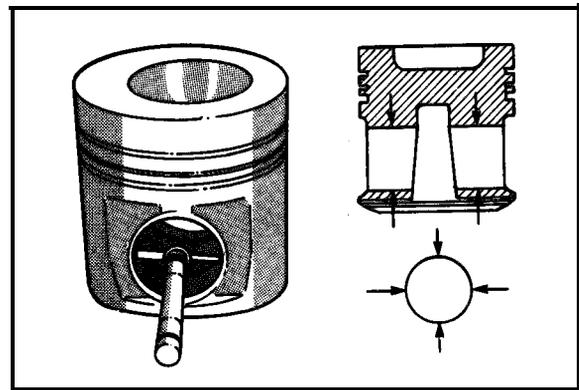

Figure 6-12
8. Using an inside micrometer, measure piston pin bore at locations shown by arrows (Figure 6-12).